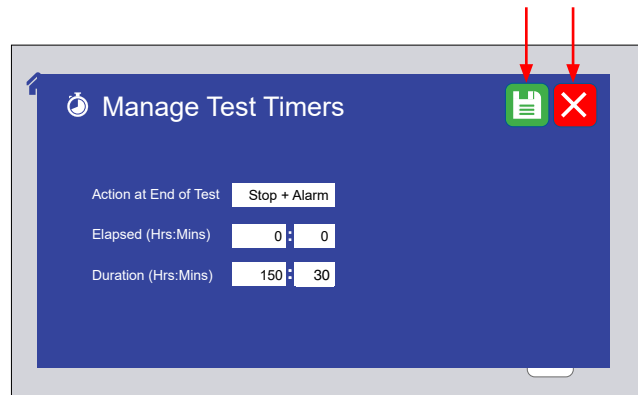
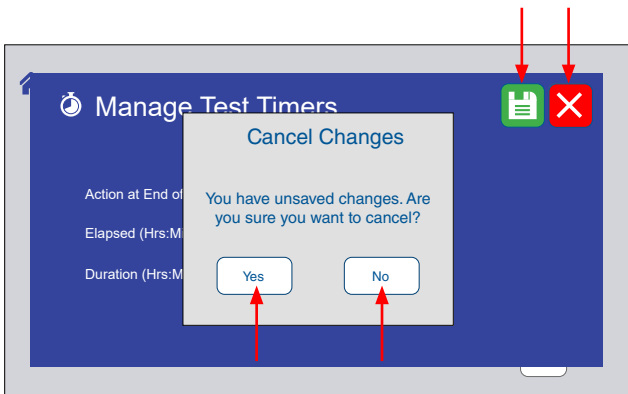

Figure 8.6f: If any changes have been made, touch the save changes icon or the cancel changes icon to re-display the Main Menu screen.
Figure 8.6g: If the cancel changes icon is touched, the operator is prompted for verification. Touch Yes or No.
- If any changes are made to Manage Test Timers, the operator can accept or cancel the changes (Figure 8.6f and Figure 8.6g)